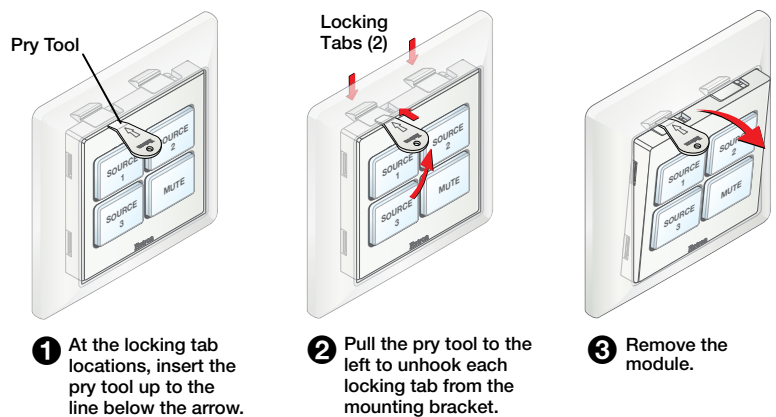

Figure 5. Release Bezel (EBP 104 EU or EBP 104 MK)
Insert the Extron pry tool between the top of the bezel and the frame and slide it to the location of one of the locking tabs (see figure 5, ①). Pull the pry tool up so that the locking tab is pressed down, which releases it (②).